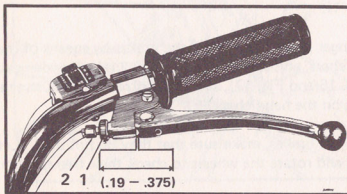

Fig. 15 — Brake Adjustment
For routine adjustment of the front and rear brake, use the respective adjusting screws on the handlebars (Fig. 15). First loosen the knurled nut (1) and then screw the adjusting screw (2) in or out to adjust the free travel of the brake lever so that it keeps a distance of .19" to maximum .375" from the brake lever holder. After having adjusted the correct brake lever travel re-tighten the nut (1).